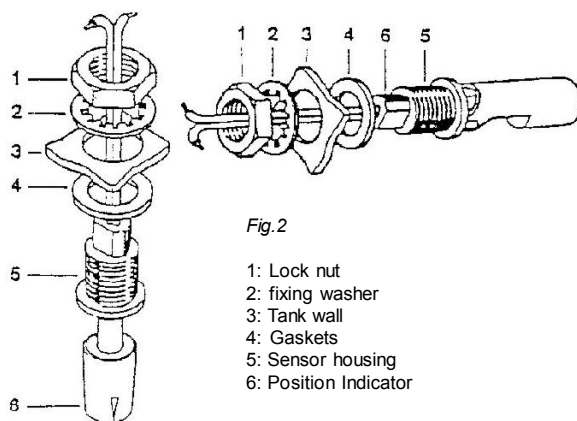

Fig. 2
- Enter from inside the wires through the hole in the tank taking care not to damage the washer or gasket, position properly against the inner wall of the reservoir and the ring of all the sensor housing (Fig. 2).